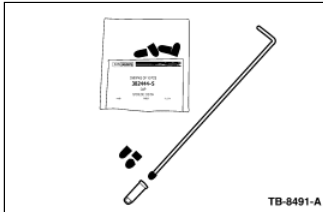

Figure 7 - Article 08-7-6
1. Modify vacuum cap to a 3/8" (10 mm) length for each ground electrode shield that needs to be removed. (Figure 7)
2. Use the installation rod (J) provided with service tool 303-1203 update to install the modified vacuum cap. Push the cap into the ground shield down to the electrode strap. This will plug and protect the combustion chamber from contamination. (Figure 7)
**NOTE:** NEW PLUGS SHOULD BE INSTALLED USING A FILM COATING OF MOTORCRAFT® HIGH TEMPERATURE NICKEL ANTI-SEIZE LUBRICANT ON THE GROUND ELECTRODE SHIELD. DO NOT COAT THE ELECTRODE STRAP. (FIGURE 7)